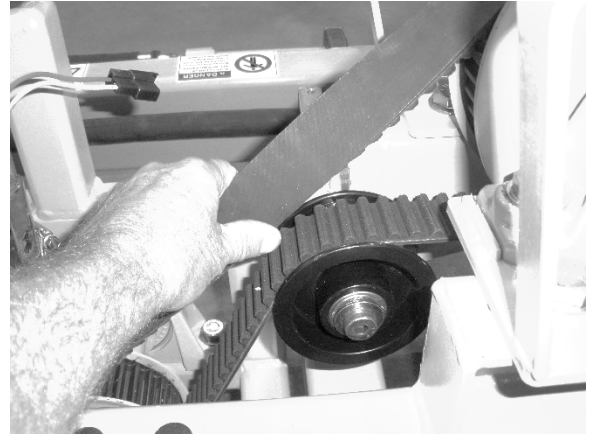

Figure 4—The belt has the correct tension when you can turn it one quarter turn using moderate force.
4. Tension the belt so the top of the belt can be rotated approximately one quarter turn using moderate force. See **Figure 4**.